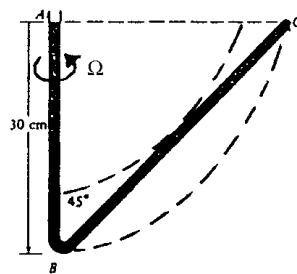

Fig. P2.157
**2.157** The  $45^{\circ}$  V-tube in Fig. P2.157 contains water and is open at A and closed at C. (a) For what rigid-body rotation rate will the pressure be equal at points B and C? (b) For the condition of part (a), at what point in leg BC will the pressure be a minimum?